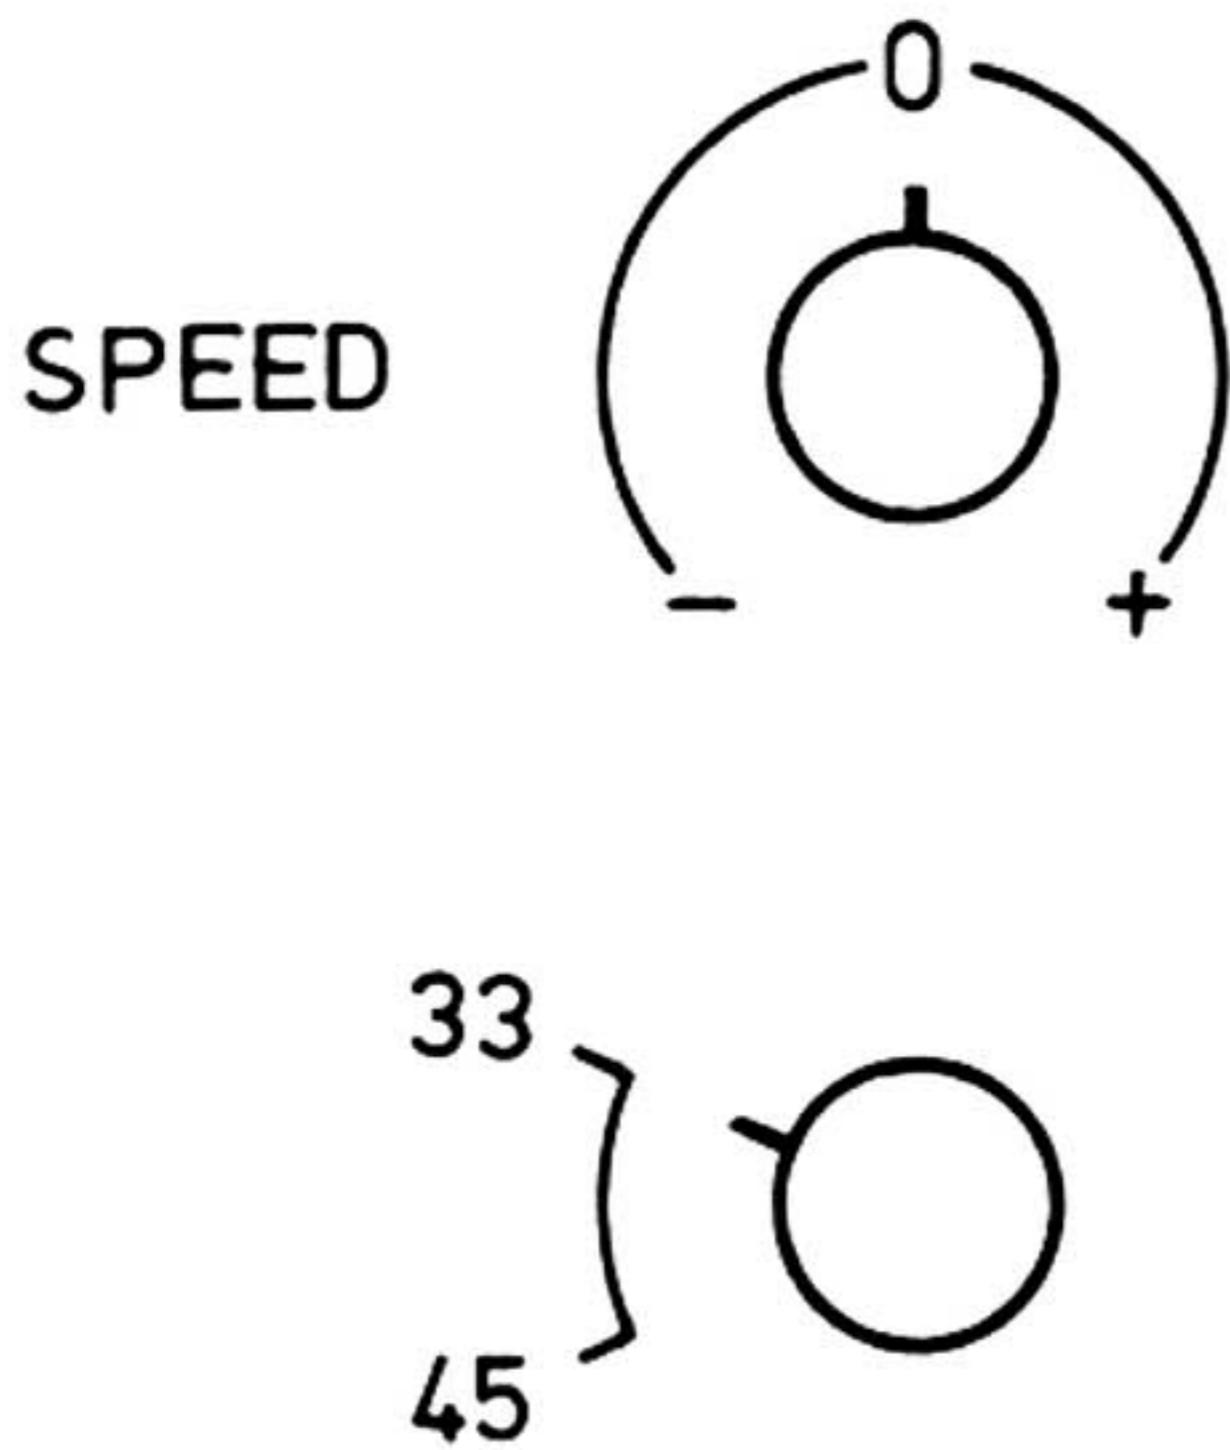

Fig. 1
5. Check the setting of the fine speed control knob (P 1) by comparing its fully clockwise position with that on fig. 1. If necessary adjust the position by removing the upper part of the knob and replacing in the correct position.
6. With the fine speed control in the position «0» shown in fig. 1 check that the bars on the stroboscope ring are stationary. The upper 2 rings are for 50 Hz and the lower 60 Hz. From each pair the upper is for $33\frac{1}{3}$ and the lower 45 rpm. If necessary the speed can be adjusted with the two potentiometers which are to be found underneath the motor.